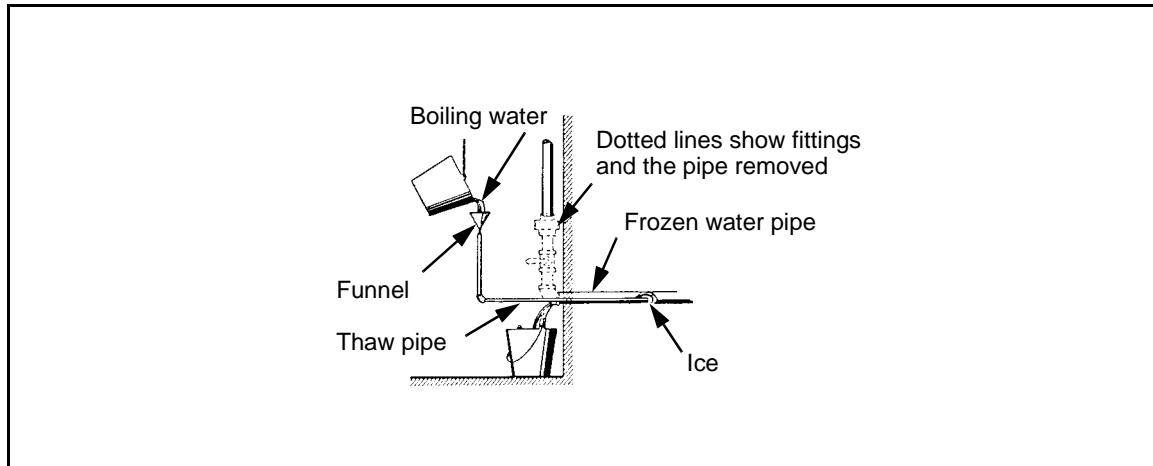

Figure 3-1. Thawing A Frozen Pipe
**Step 2.** Place a small thaw pipe or tube into the frozen pipe as shown in *Figure 3-1, page 3-4*.